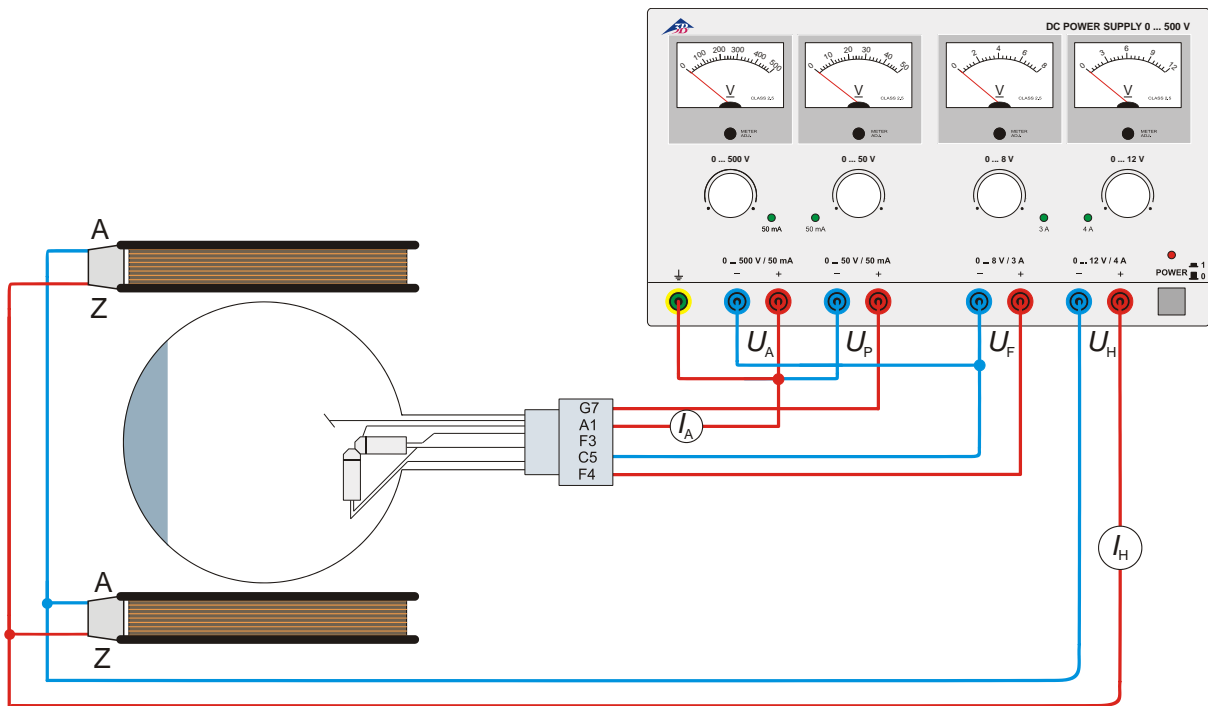

Fig. 4 Determining  $e/m$  using the perpendicular electron gun
- Connect up the tube as in Fig. 4.